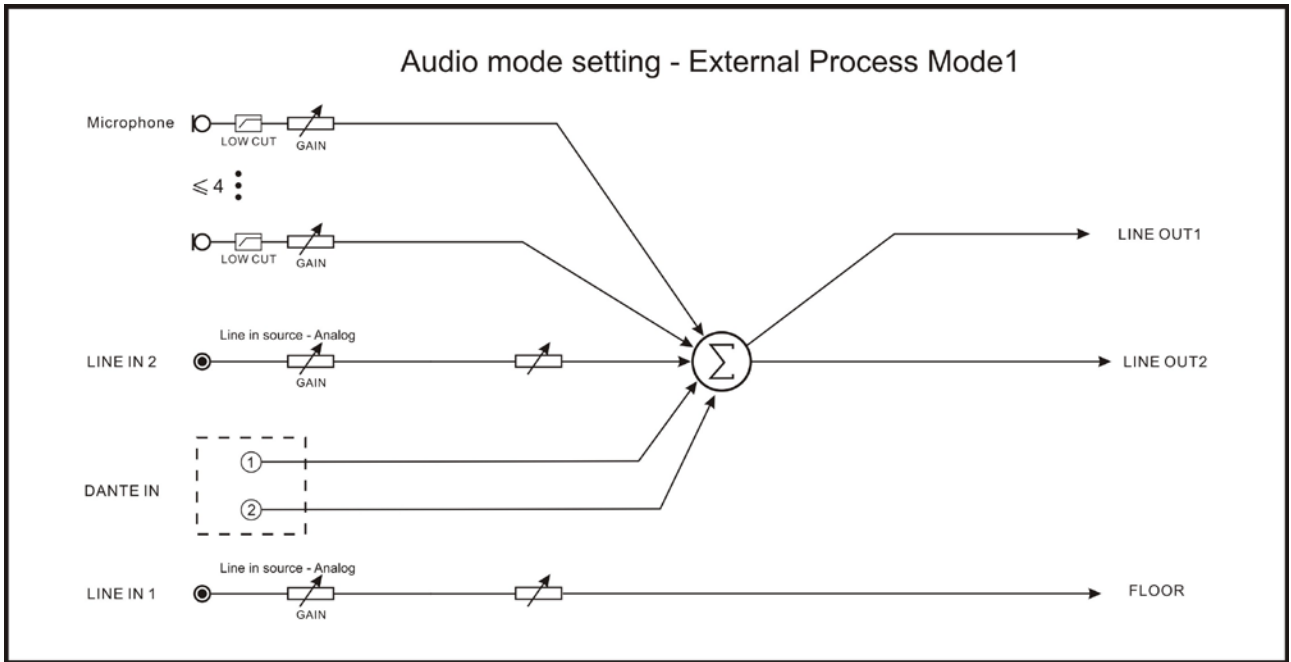

Figure 2.15 Audio mode setting – External Process Mode1
- **External Process:** If selecting analog interface for external processor, LineOut1 and LineOut2 output feature each the sum signal of Dante In + LineIn2 + active microphones; floor audio output features the audio signal of LineIn1 (figure 2.15).